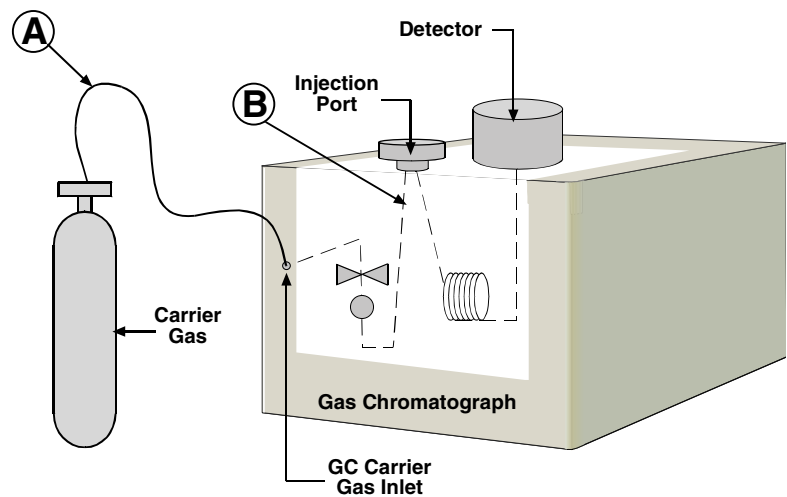

Figure 3-1 Gas Chromatograph Connections
You may use a single gas supply as the source for both sample and carrier gas; however, the flows must be independent of each other. Figure 3-1 illustrates a GC connected to a carrier gas supply. You can tap into the carrier gas supply line to provide carrier and sample gas for the 3100.
- To provide sample gas to the 3100, tee off the supply line at point A (Figure 3-1). Follow the instructions in the next section.
- To provide carrier gas flow and connect the 3100 to the GC, cut the gas supply line at point B (Figure 3-1) to divert carrier gas flow through the 3100 and back to the GC via the 3100 transfer line.